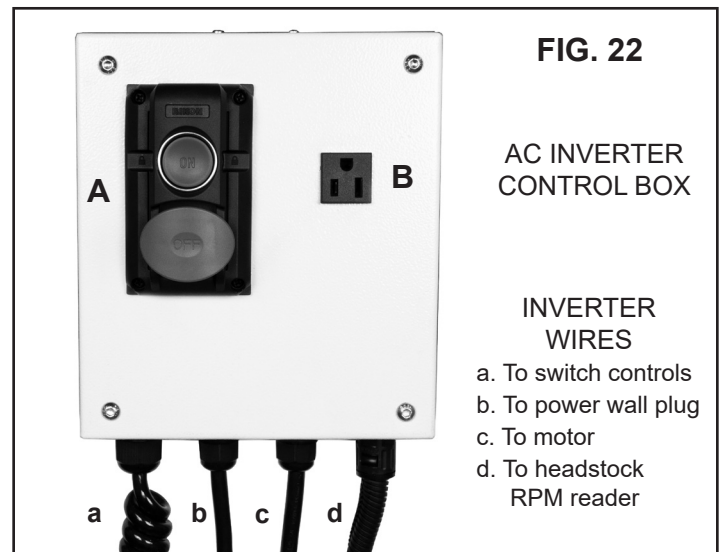
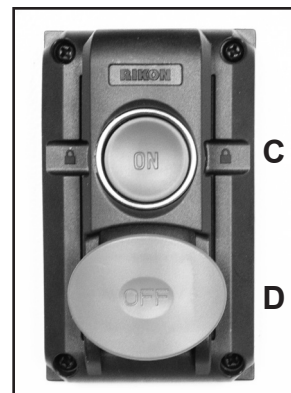

FIG. 22
FIG. 23
The #70-1824VSR Lathe has a Main ON/OFF switch (Fig. 22, A) located on the inverter box which is under the headstock end of the lathe bed. This switch **MUST** be operated before and after the lathe is used. It allows electrical access to the switch box for using the lathe. It also totally shuts down the lathe when not in use for an extended time. This switch protects the lathe's electricals, particularly the LCD display from burning out, and prevents unwanted access by children or bystanders. The switch will also hold a lock to further secure the lathe from being activated. Push the green Button (Fig. 23, C) so that it turns the lathe ON. Push the red Button (D) to turn the lathe OFF.
A 115V electrical receptacle (Fig. 22, B) is provided on the inverter for the use with corded lights or other accessories with grounded 3-prong plugs. When not in use and for child proofing, the supplied plug cover should be inserted into the receptacle. This will also keep dust out of the unit.
**NOTE:** The Main ON/OFF Switch (Page 15, Fig. 22, A) must be turned ON for the Switch Controls to work.
**⚠ CAUTION** Only change rotation direction when the spindle has completely stopped. Should the switch be changed while the lathe is operating, the machine will automatically turn off and a '0000' protection mode will be displayed on the LCD Display screen (E). Press the green 'ON' button to resume work in the new rotation setting.
**B. 'ON' BUTTON:** Push the green Button so that it turns the lathe ON. Push the red Button (D) to turn the lathe OFF.